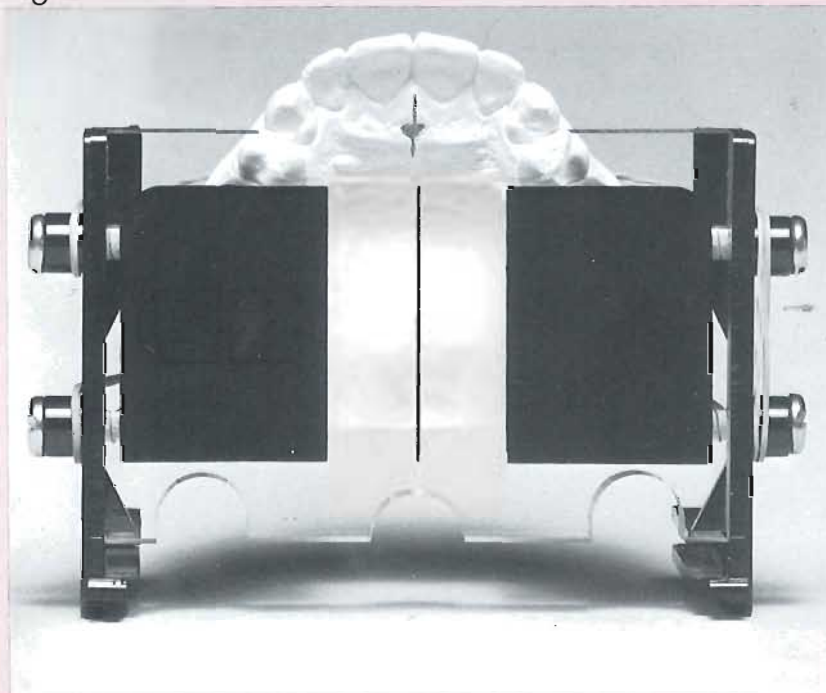

Fig. 3
**4** Match the mid palatal plane to the engraved sagittal line. Then, adjust the anterior edge of the base unit to coincide with an imaginary line connecting the distal surfaces of the cuspids, parallel to a plane across the tuberosities (Fig. 3).